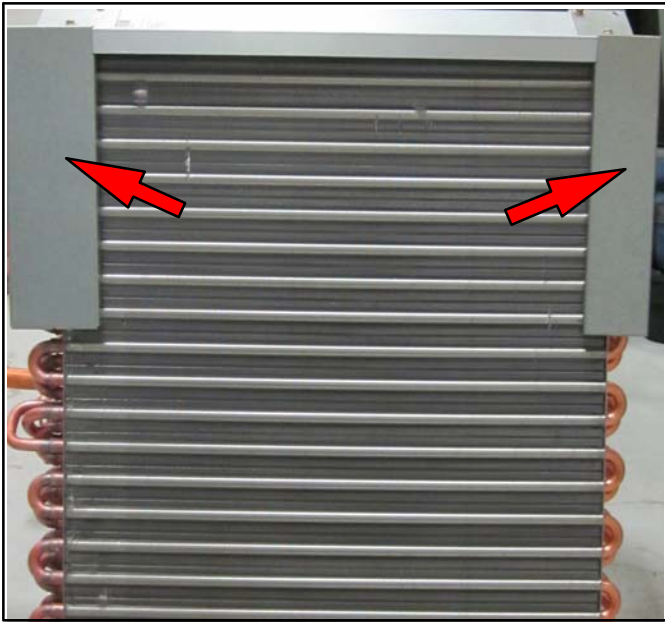

Figure 7. Reinstall the Top Cap. Brackets Must Cover the Hairpins
5. Rotate drip pan 180° and reinstall on coil as shown by the arrow above. Reinstall the top cap. Rotate the blow-off prevention brackets 180° and reinstall using the same screws. Use the correct mounting holes; the brackets must cover the hairpins. See figure 7.